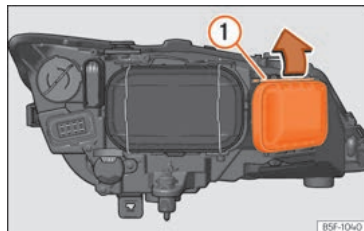

Fig. 109 Turn signal bulb.
- Move the loop » **Fig. 109 ①** in the direction of the arrow and remove the cover.